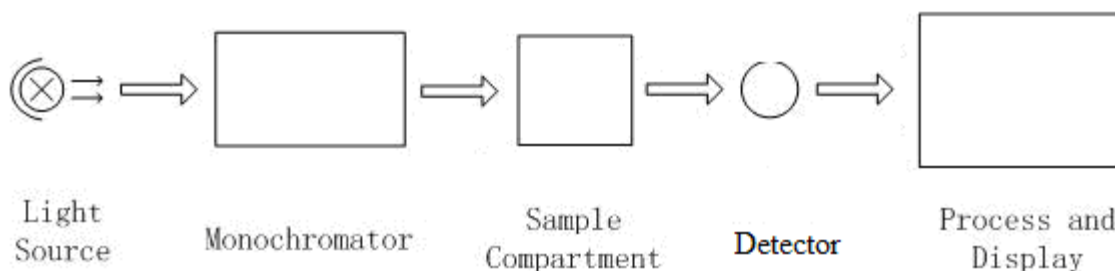

Fig 2-4 Block diagram for the Spectrophotometer
5) A digital display to indicate absorbance or transmittance. The block diagram (Fig. 2-4) below illustrates the relationship between these parts.